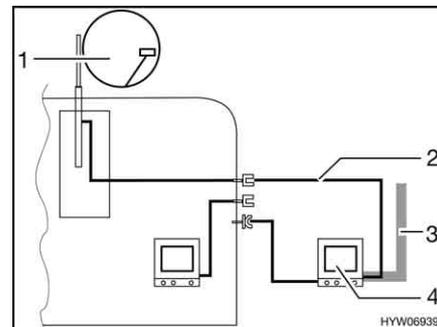

Fig. 118 TV in the awning
- TV inside the awning (Fig. 118,4): Connection to roof antenna (Fig. 118,1) with connection cable (Fig. 118,2)
- TV inside the awning (Fig. 118,4): Connection to external antenna (Fig. 118,3)